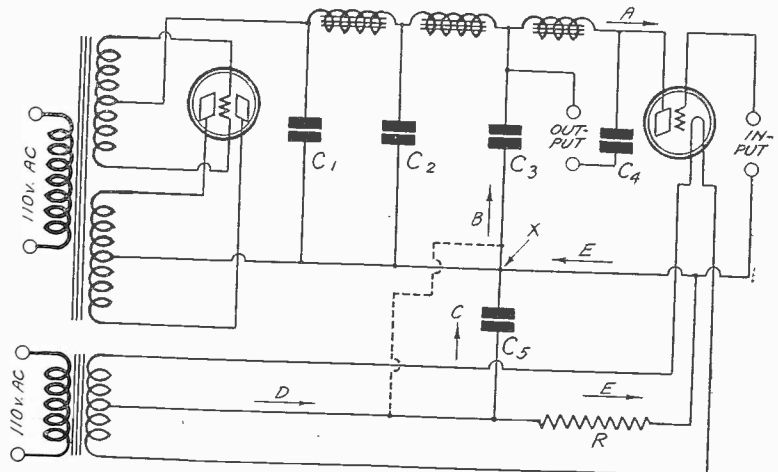
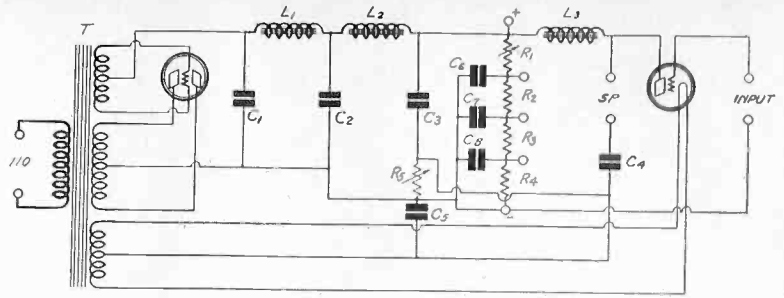

FIG. 1
FIG. 3
### DIAGRAM OF A B BATTERY ELIMINATOR INCORPORATING THE BY-PASS PRINCIPLES DISCUSSED IN CONNECTION WITH FIG. 1.
In Fig. 1 is given a diagram of a typical B battery eliminator and attached
The connection which gives the least hum and at the same time the least reduction in the amplification as a result of the use of the grid bias resistor R is shown in Fig. 1 by the dotted line. The connection of C3 at the junction X is removed and the lead brought down to the midtap on the filament transformer.
In the circuit arrangement shown in Fig. 1 the loudspeaker is connected across the output choke coil alone. The signal current therefore must go through C3 before it can complete its circuit, or else it must find a way back through the rectifier and the filter. Obviously, a large current will flow by way of the choke coils and the rectifier when the speaker is connected as in Fig. 1 then if the speaker return were connected on the low side of C3. The proper way to connect the reproducer is that which sends the least signal current through the rectifier and the filter, as well as the least through the resistor R.
The speaker connection shown in Fig. 1 is the usual connection because this is the most convenient in most cases and it also subjects the stopping condenser C4 to a low stress. But it is not the best from the viewpoint of quality of reproduction, degree of amplification, and stability of the circuit. Fig. 3 shows the connections which will introduce the least hum in the signal, which will yield the greatest stability of the circuit, and which will operate with the least dependence on the resistor R.
**The Reversal in Fig. 3**
Note also in Fig. 3 that the positions of the speaker and the stopping condenser have been reversed. The speaker is next